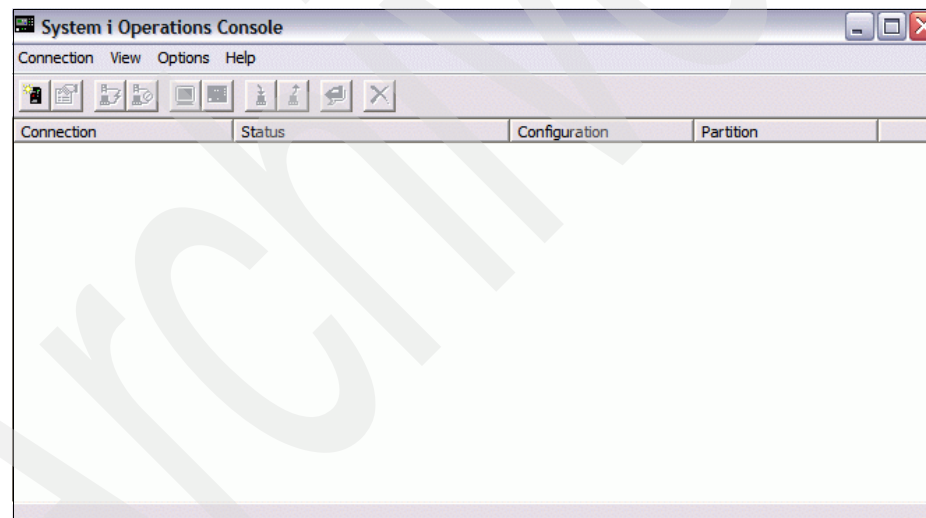

Figure 5-20 IBM System i Operations Console
1. In the active Windows session, select **Start -> All Programs -> IBM System i Access for Windows -> Operations Console**. The window shown in Figure 5-20 should appear.